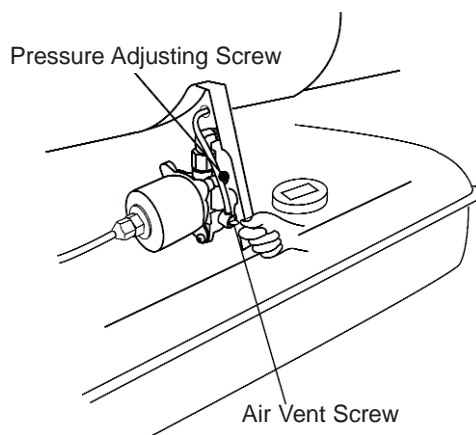

Figure 13 – Pump Pressure Adjustment
4. Adjust pump pressure by turning pressure adjusting screw. See Figure 13.